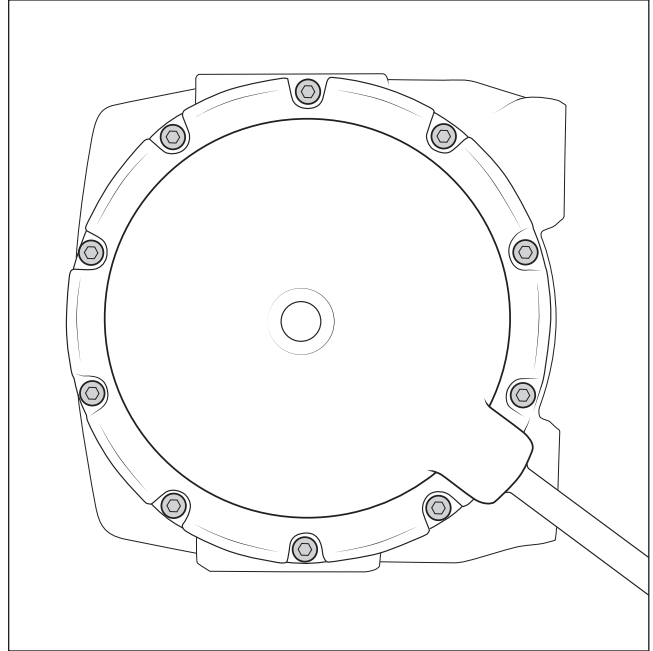

Figure 6
9. Remove the bolts holding the drum assembly and carefully remove the housing (fig. 6).